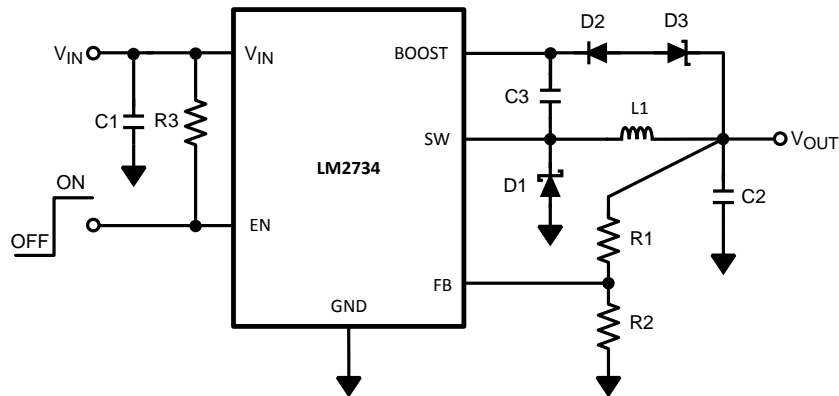

Figure 19.  $V_{\text{BOOST}}$  Derived from Series Zener Diode ( $V_{\text{OUT}}$ )
Table 11. Bill of Materials for Figure 19
**Table 11. Bill of Materials for Figure 19 (continued)**